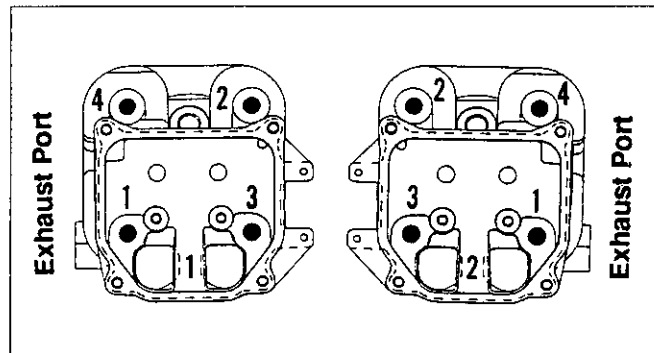

Figure 11-38. Cylinder Head Fastener Torque Sequence.
5. Initially torque the four hex. flange fasteners in the proper sequence to **20 N·m (15 ft. lb.)**. See Figure 11-38 for the proper torque sequence. Repeat the procedure, torquing fasteners to a final value of **40.7 N·m (30 ft. lb.)**.